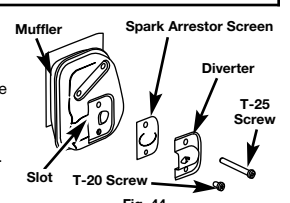

Fig. 44
- With a flat blade screwdriver or Torx T-20 bit and a T-25 bit, remove the screws attaching the spark arrestor diverter to the muffler (Fig. 44).